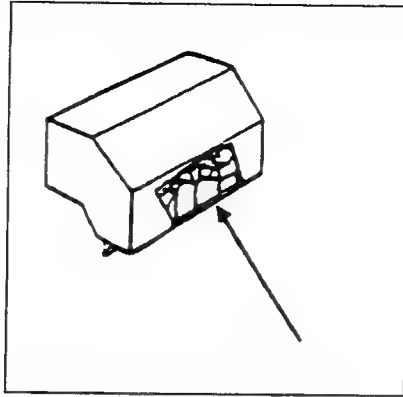

Figure 2-12. Remove The Chains
- h. Untape the bag attached to the sound shroud and remove the chains (see Figure 2-12).